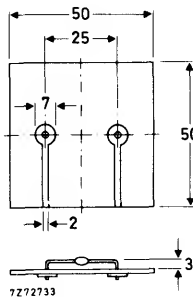

Fig. 2 Mounted on a printed-circuit board.
$T_{amb} = 45\text{ }^{\circ}\text{C}$; p.c.b. mounting (Fig. 2)
2. Thermal resistance from junction to ambient when mounted on a 1,5 mm thick epoxy-glass printed-circuit board; Cu-thickness $\geq 40\text{ }\mu\text{m}$; Fig. 2
— = T_{tp} ; - - - = T_{amb} ; Fig. 2.